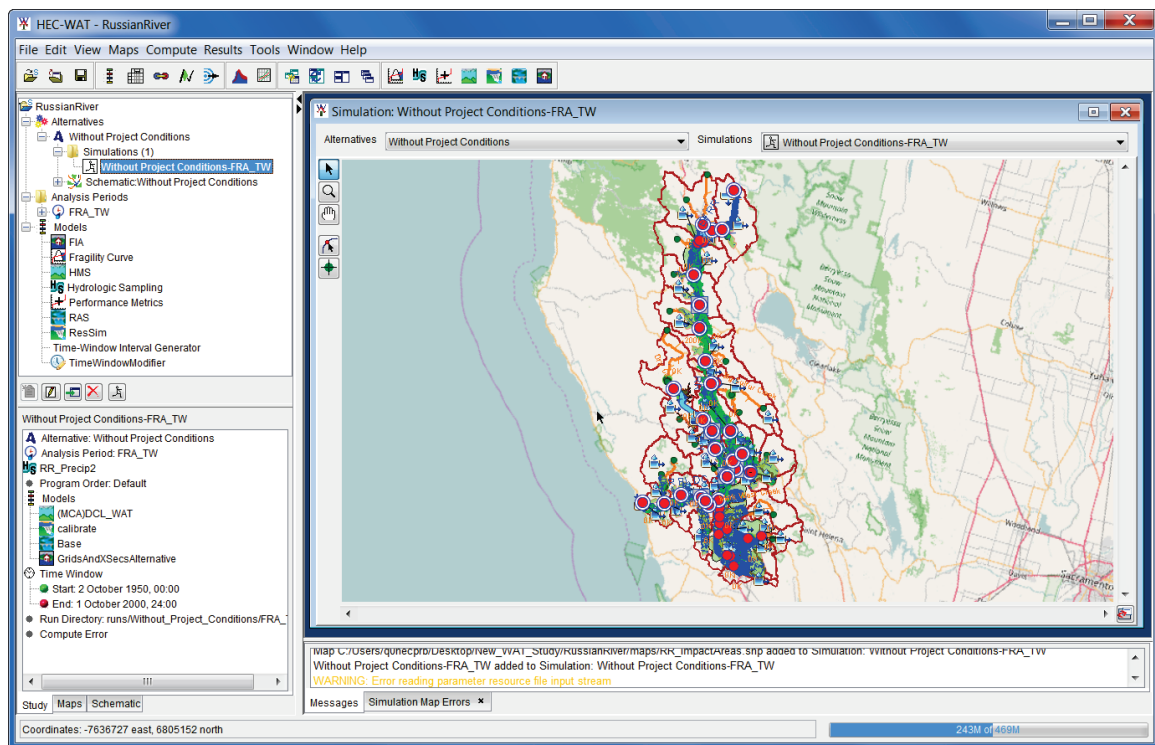
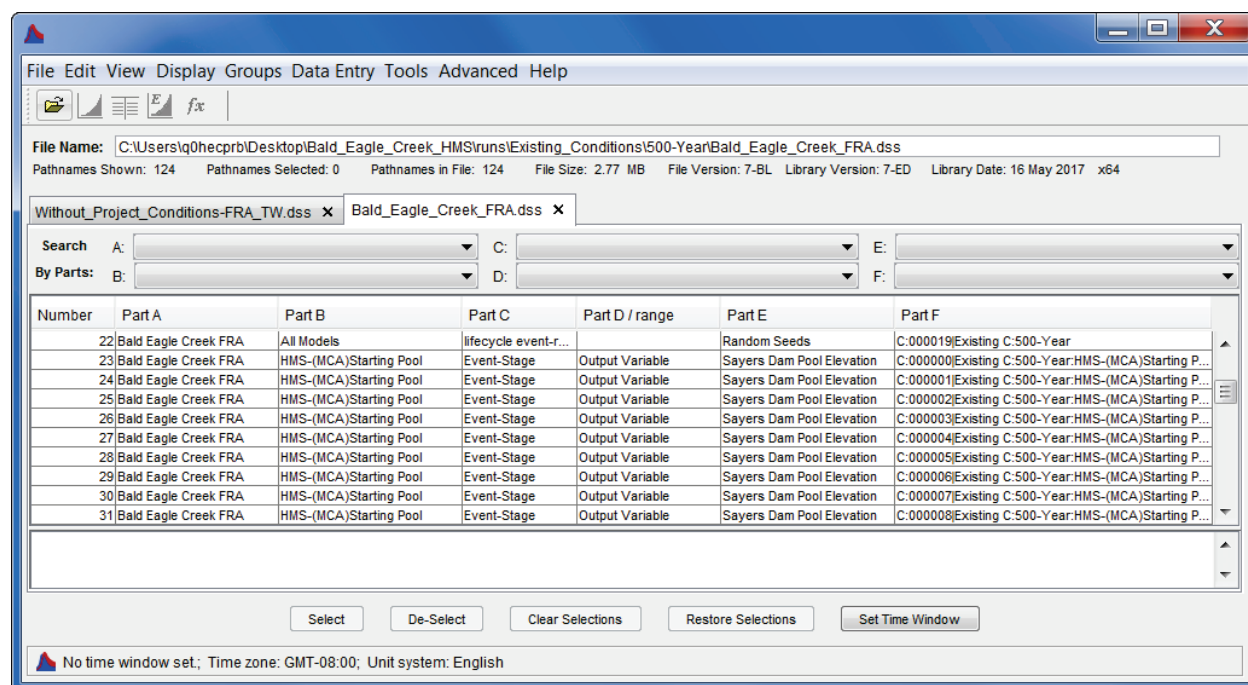

**Figure 16.1** Output Variable Editor
**Figure 16.3** Select model name and model alternative name Variables Selector
The **Output Variable Editor** (Figure 16.1) provides an interface for selecting results from an HEC-WAT flood risk analysis (FRA) compute. Currently, only the maximum values from selected model alternative results and sampled parameters from some of the model alternatives are saved through output variables. There are multiple options for saving files and model alternative results from an FRA compute. All time-series information is saved in DSS files organized by life cycles. In many cases, saving and maintaining many thousands of time-series data records is not possible due to storage limitations. However, the maximum value from each time series is useful. For example, the peak flow or stage value from a hydrograph time-series can be used to compute a flow/stage frequency curve or these values can be plotted to quickly show if a flow or stage threshold was exceeded. Saving the sampled parameters or initial conditions is useful when evaluating the conditions that led to certain results (i.e., when a high reservoir stage is a result of sampling a high starting pool condition).
The user must choose at least one output variable from the model alternatives in the compute sequence, or notify the FRA simulation to compute without an output variable. For a "production" simulation where results are required, the user should choose all appropriate output variables before running the simulation. Recommended and it is considered good practices for the user to choose at least one output variable. In most cases, the desired type of results from an FRA simulation will include the maximum (or minimum) value from a time-series record. For example, the maximum stage from a reservoir time-series could be extracted to build a reservoir stage frequency curve. Saving time-series information from many thousands of events, at many locations, for many model alternatives could overwhelm the available storage on a computer. However, maximum values (scalars) do not require much disk space. From the **Output Variable Editor** (Figure 16.1), a user can select any available output variables from the model alternatives that are part of a selected FRA simulation and get summary information (e.g., maximum flows, maximum stage, etc.) for each event in the FRA compute.
2. The **Output Variable Editor** will open (Figure 16.1). From the editor, the user can select variables from the model alternatives that are part of a selected FRA simulation. Currently, the maximum value for each of the output variables selected will be saved to the *simulation.dss* file and if the user wants to generate a frequency curve for a selected output variable, the user must select **Frequency** from the **Output Variable Editor** (Figure 16.1).
- Next, click **Select Variables to Save**, the **Select model name and model alternative name Variables** selector will open (Figure 16.3).
- A list of the selected model alternative's available output variables is listed in the **Available Variables** list (e.g., *Hydrologic Sampling, RR\_Precipitation*). To select an output variable, highlight the variable, and then click **Add**. The selected variable is moved to the **Selected Variables** list. Click **OK**, the **Select model name and model alternative name Variables** selector (Figure 16.3) closes and the selected output variables appear on the **Output Variable Editor** (Figure 16.1).
- From the **File** menu, click **Save**. Close the **Output Variable Editor** (Figure 16.1)
For each scalar value selected, a frequency curve can be created. From the **Output Variable Editor** (Figure 16.1), in the **Frequency** column (Figure 16.1), the user can select, for each scalar value, that a frequency curve be computed from results in each realization, and the combined frequency curve (computed by combining results from all realizations) will be computed (generated) along with the 5 and 95 percent confidence limits for the combined curve by HEC-WAT. The checkbox in the **Frequency** column (Figure 16.1) must be checked, so that when the selected FRA simulation computes, results will be added to the simulation DSS file. Figure 16.6 provides an example of DSS pathnames with frequency curve results for each realization in addition to the combined curve and confidence limits. The frequency curves are computed based on the total number of events that were simulated including events that were skipped using model skip flags. The scalars (maximum values) are ranked from largest to smallest and the exceedance probability is computed based on the rank divided by the total number of events (plus one) in the realization.
If frequency curves were not created for certain output variables after an FRA simulation has computed, the user can compute frequency curves. After selecting output variables to create frequency curves, from the **File** menu (Figure 16.1), click **Save and Compute Selected Frequencies**. HEC-WAT will then compute frequency curves for the selected output variables. This option will only work when an FRA simulation has been previously computed.
The **Frequency Viewer** (Figure 16.10) provides frequency plots of the user selected output variable from the **Variable** list (Figure 16.10) and the realization (**Realization** list). The **Realization** list does include an option to view all realizations. For example, Figure 16.10, displays a frequency curve for *All Realizations*. A separate frequency curve is plotted with results from each realization plus the combined frequency curve and the 5 and 95 percent confidence limits for the combined curve. Only those output variables with **Frequency** selected in the **Output Variable Editor** (Figure 16.1) will have frequency curve results to visualize.